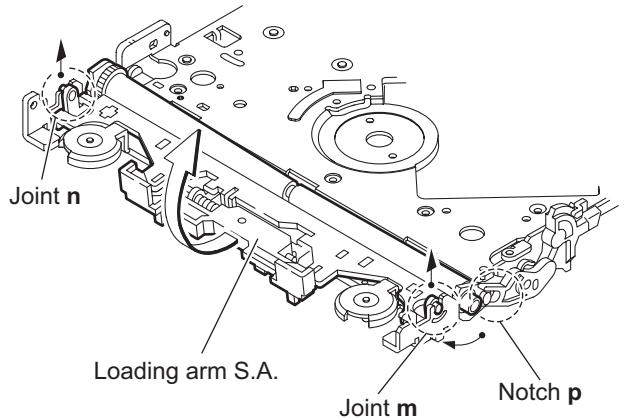

Fig.13
(See Figs.13 and 14)
- (1) From top side of the front unit, move the loading arm S.A. from the front upwards. (See Fig.13)
- (2) Release the bosses from the right and left joints **m** and **n** of the chassis base. (See Figs.13 and 14)